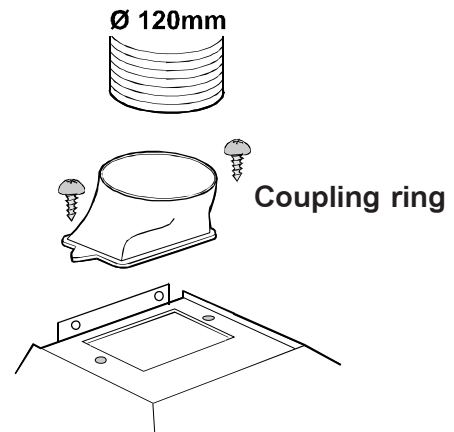

Fig. 1
- In this version fumes are extracted to the outside via a hose connected to the coupling ring. **Fig. 1**.